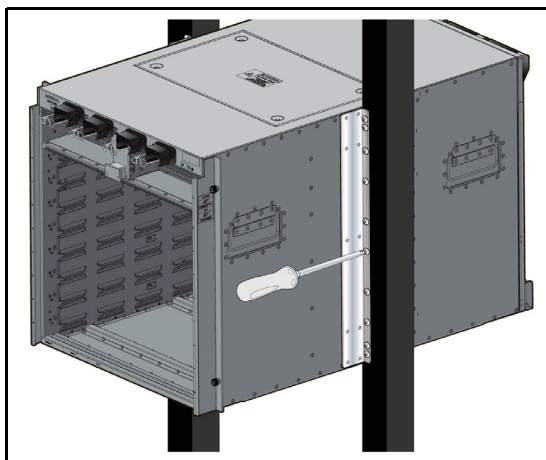

**Figure 3: Lifting the Switch Chassis into the Two Post Rack**
**Step 1** Move the chassis to the rack using a mechanical lift (Figure 3).
**Step 2** Lift the chassis into the rack. Position the flanges against the rack posts (Figure 3).